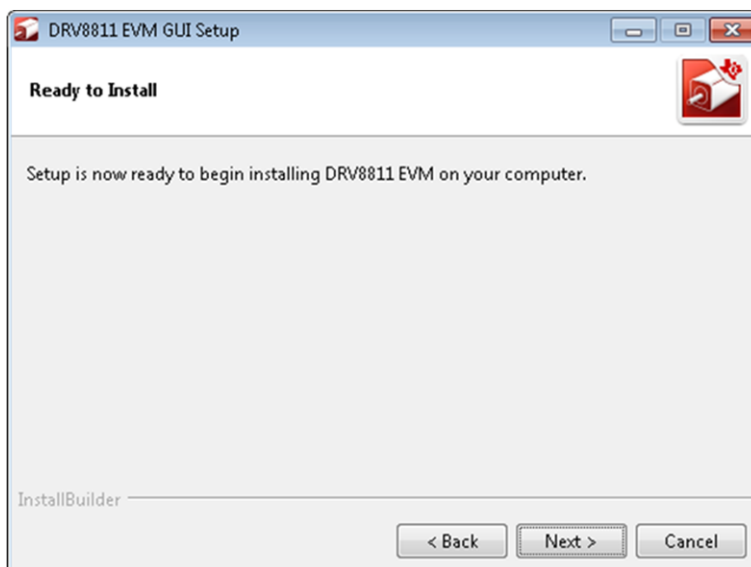

Figure 10. Ready to Install
8. A screen as shown in Figure 10 appears. Click **Next** to begin the installation.